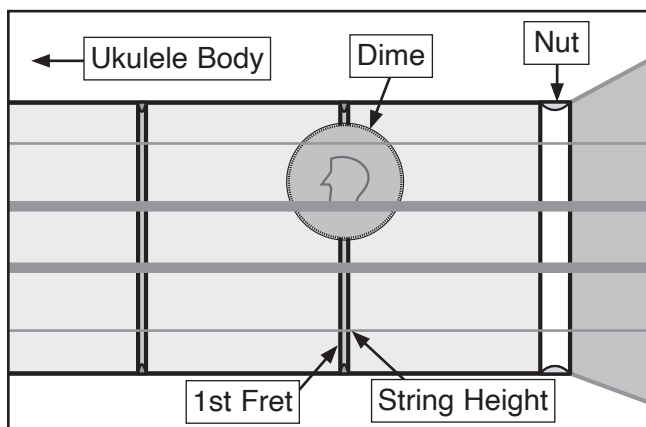

Figure 28. Correct 1st fret string heights.
1. Using a dime as a gauge, measure string height at each string along 1st fret (see **Figure 28**).